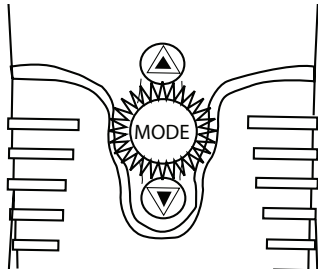
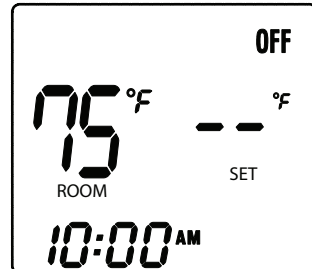

Fig. 3 Mode Button
Fig. 4 OFF Mode
To understand the operation of the transmitter, press and release the MODE button (Fig. 3) until the LCD screen reads OFF in the display (Fig. 4).
**Step 3:** Press the MODE button a third time to turn the appliance back **OFF** again as show in (Fig. 4).